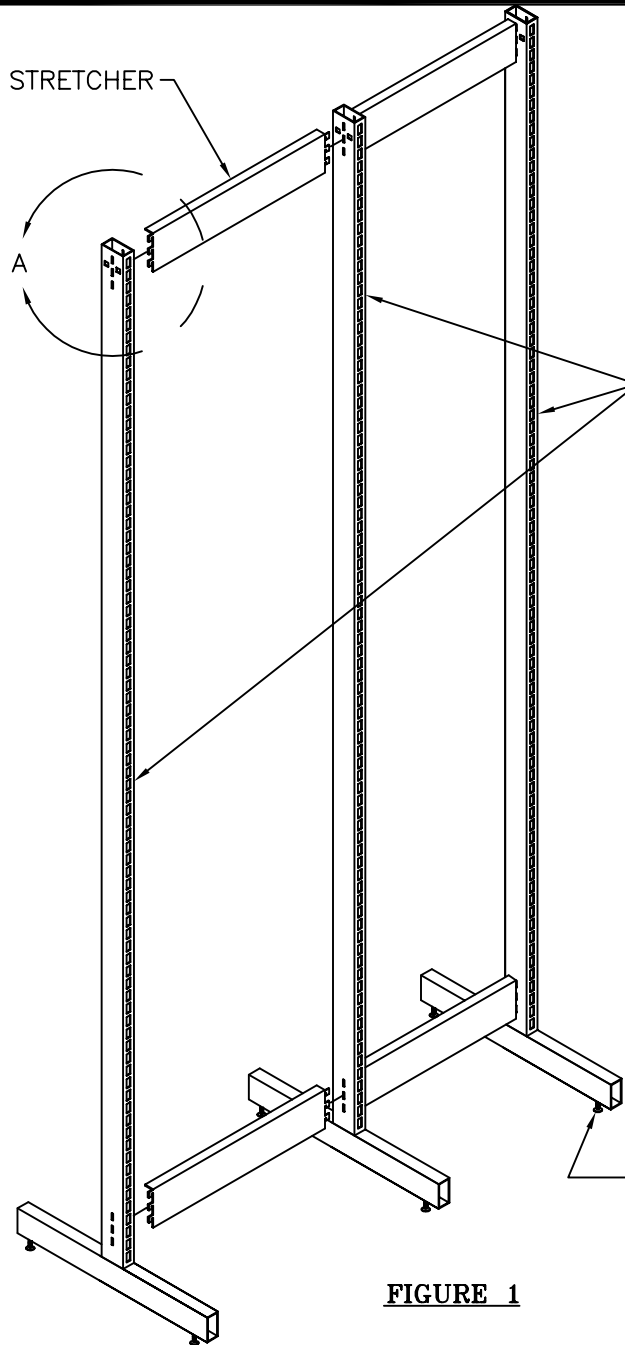

FIGURE 1
STEP 2: Install Stretchers into Uprite as shown in Figure 1.